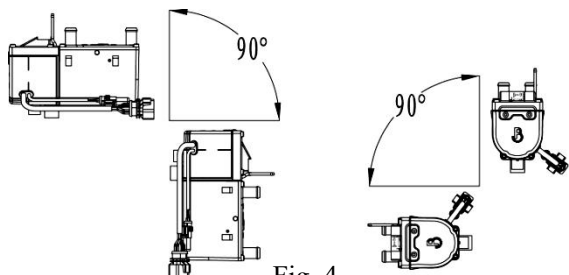

Fig. 4
4.2.3 Choice of position for installation of the heater shall facilitate release of air from the water pipe. It is allowed to incline to suit different arrangements for installation, but deviation from the "normal installation position" shall not exceed 90°, as shown in Fig. 4. Normal position is horizon and the
shall not exceed 90°, as shown in Fig. 4. Normal position is horizon and the